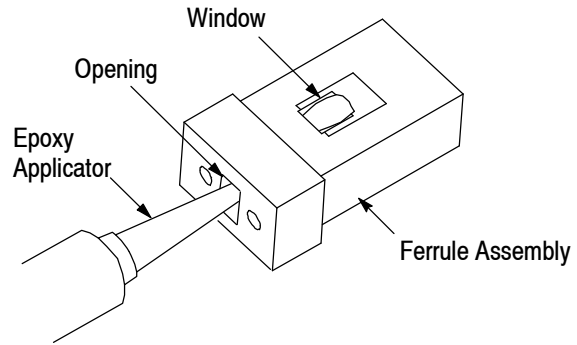

Figure 18
1. Prepare the epoxy according to the package instructions, and fill the applicator from the epoxy applicator kit. Insert and bottom the epoxy applicator into the opening of the ferrule assembly. Slowly begin injecting epoxy into the ferrule. As the window fills, slowly withdraw the applicator while continuing to dispense epoxy. See Figure 18.